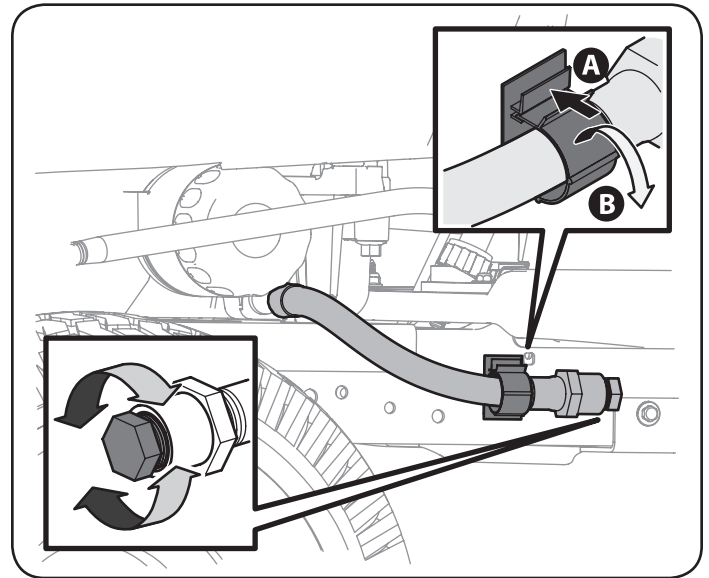

Figure 14
4. Remove the oil drain hose from the clip on the left side of the frame. See Figure 14.
5. Remove the oil drain hose plug from the end of the hose. See Figure 14. Drain the engine oil into the collection container.